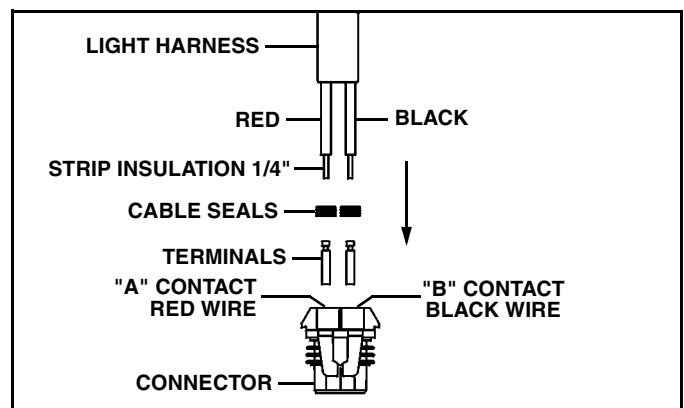

Figure 1-7
2. Install cable seals on Light Harness wires, then strip insulation back 1/4" on both wires. (See Figure 1-7).
3. Crimp terminals on both wires and slide seals down against terminals. Then insert terminals into the correct contact location in the connector until they snap in place to lock. (See Figure 1-7).